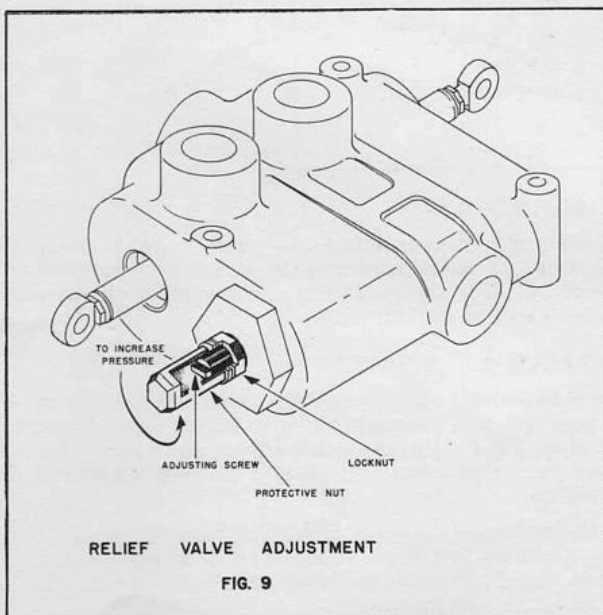

FIG. 9
Pressure is adjusted by turning the adjusting screw as shown in Figure 9. The protective nut must be removed and the locknut loosened; turn the adjusting screw counterclockwise (out) to increase pressure and clockwise (in) to decrease pressure.
3. With engine speed held at range required to raise tailgate, set adjusting screw in relief valve (Figure 9) to point at which the pressure gage reads 900 p.s.i. This pressure is adequate for all load packer operations and should not be increased.